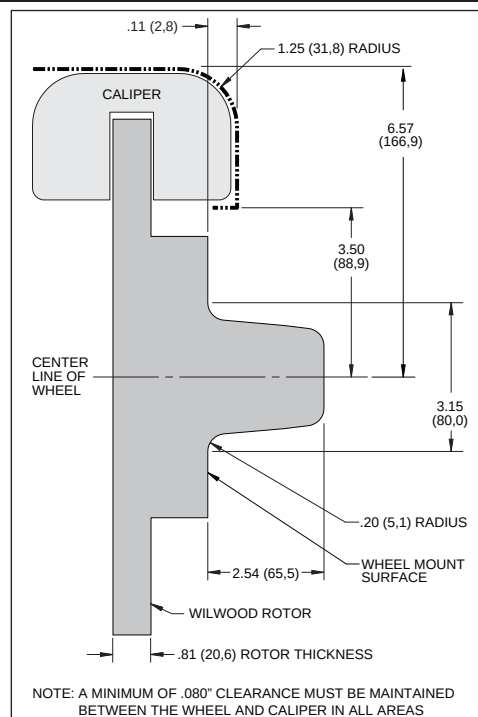

Figure 2. Wheel Clearance Diagram
- Review the Wheel Clearance Diagram (Figure 2, page 3) to verify that there is adequate clearance with the wheels you will be using with the installation.
- Verify your wheel clearance using Figure 2.
- WARNING:** The wheel contact surfaces must seat completely on the face of the hub. If any contact surfaces overhang the outside diameter of the hub face, a 6.60" diameter x .20" thick steel spacer (item 27, Wilwood P/N 300-11961) MUST be used between the wheel and the hub.